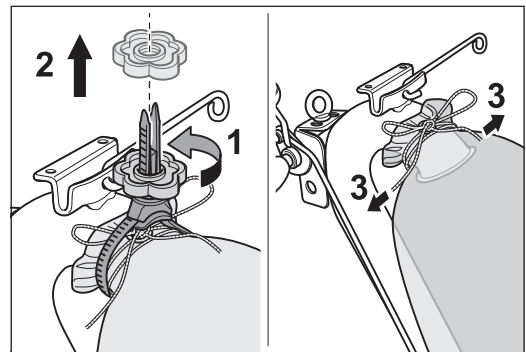

Fig. 42 Remove the MultiClip (1 and 2) and open the cord at the dust bag (3).
- 4 Remove the MultiClip (Fig. 42, 1 and 2) and open the cord at the dust bag (Fig. 42, 3).